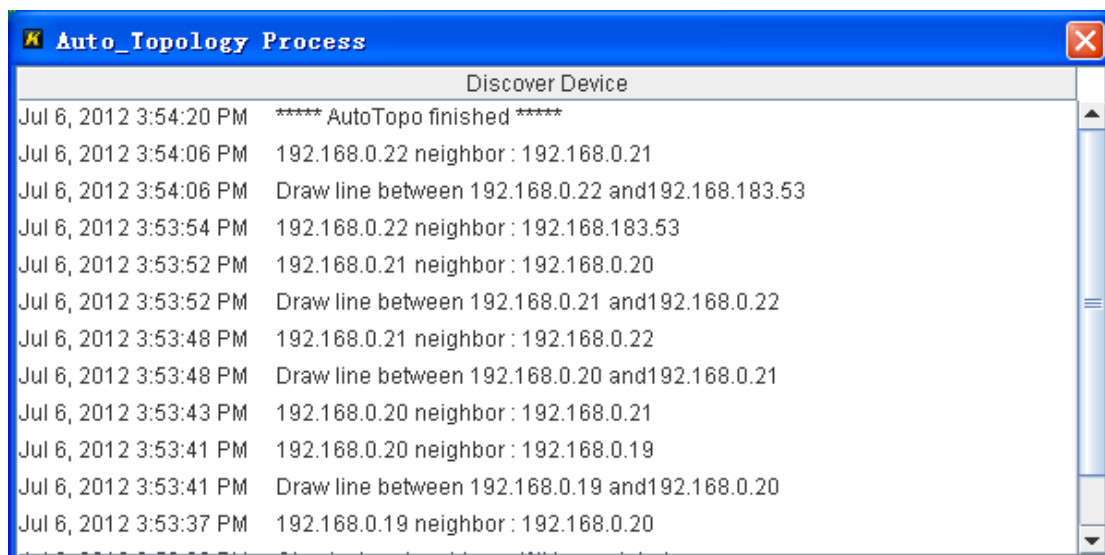

Figure 31 Auto-Topology Process
2. Select Specify IP and enter the IP address in the text box. Click <OK>. The Auto_Topology Process dialog box is displayed, as shown in Figure 31.